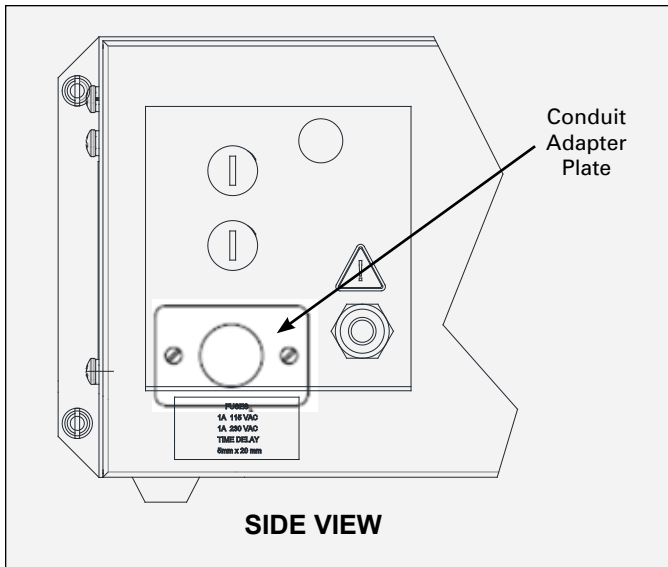

Figure 10: Installation of Conduit Adapter Plate
3. Install the Conduit Adapter Plate (See Accessories Section) in the hole where the AC inlet receptacle was removed (see Figure 10).